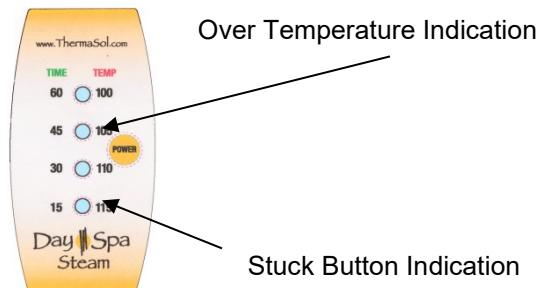

Figure 11
5. Diagnostic Feature. The Day Spa TT control has a unique diagnostic feature. If there is a malfunction within the unit, it will alert you. The red 105° LED will flash if the shower area exceeds 135°F, and the red 115°F LED will flash if the control button becomes stuck. If any of these diagnostics happen the unit will shut down and lock out all user interfaces. To reset the unit, power will need to be reset at the breaker or at the steam distribution system switch. Contact a Thermasol technician at (800) 776-0711 for further trouble shooting steps. (**Figure 11**)